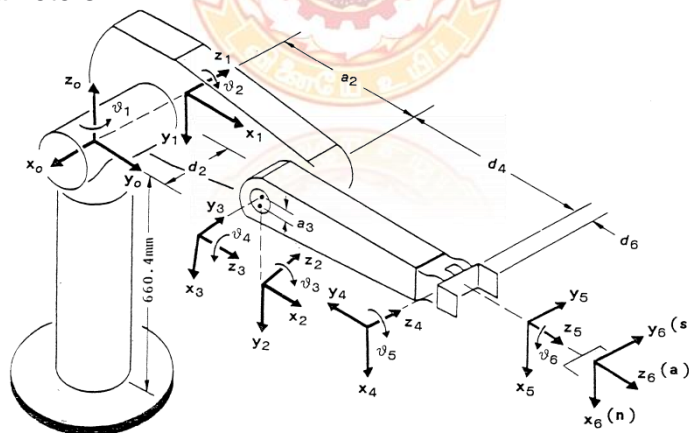

Figure 1
1. Write the coordinate transformation matrices for all PUMA joints as shown in figure 1 using DH parameters.